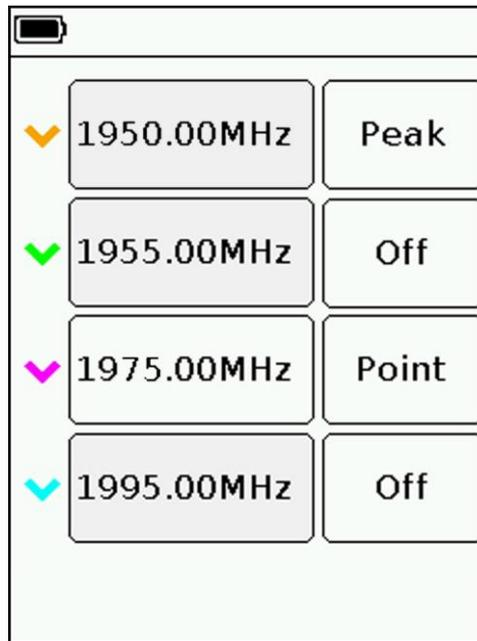

Figure 8.6.1 – Menu for setting markers and displaying peak values
8.6.1. Enter the main menu of the device and select the «**Markers**» section. A menu will appear on the screen, as in Figure 8.6.1.